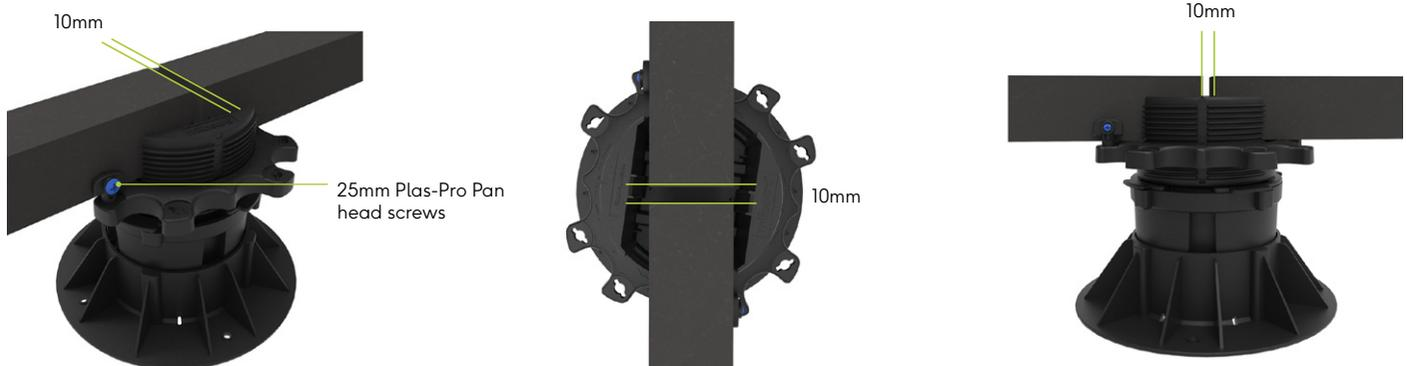

Fig. 35 - gapping of joist butt joints
- b. Joist butt joints should connect on a pedestal with a 10mm gap between the ends of the joist, locking tabs inserted into the cradle and screwed to the Plas-Pro with 25mm pan head screws (fig. 35).